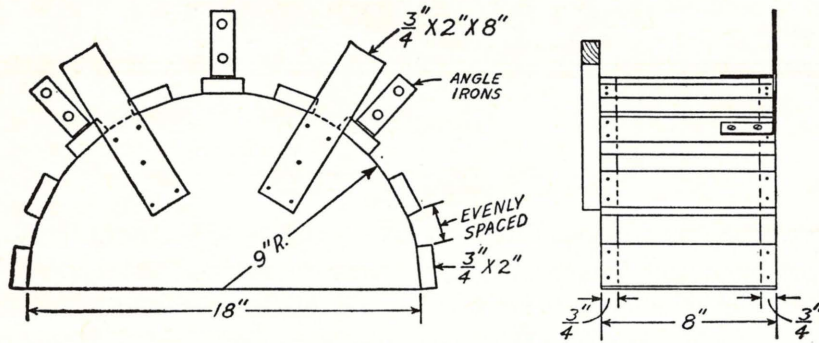

Fig. 72—Working drawing of the hose rack
6. Attach the angle irons with screws, in the locations as illustrated in figure 72.